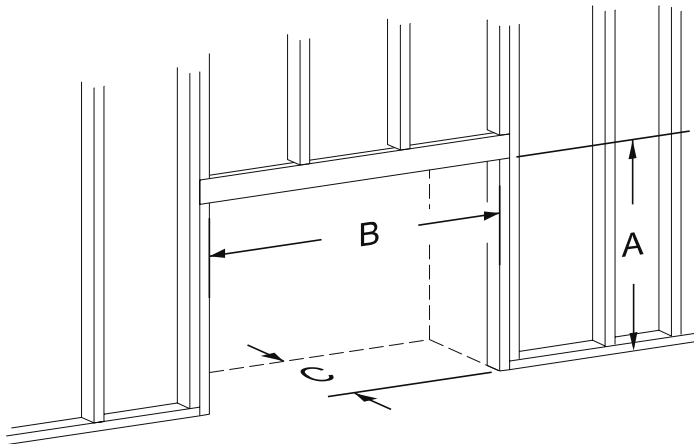

Figure 37 - Rough Opening for Installing in Wall
- Use dimensions shown in **Figure 37** for a conventional rough opening.
TABLE 3 - FRAMING DIMENSIONS (in inches) FOR FIGURES 37 - 39